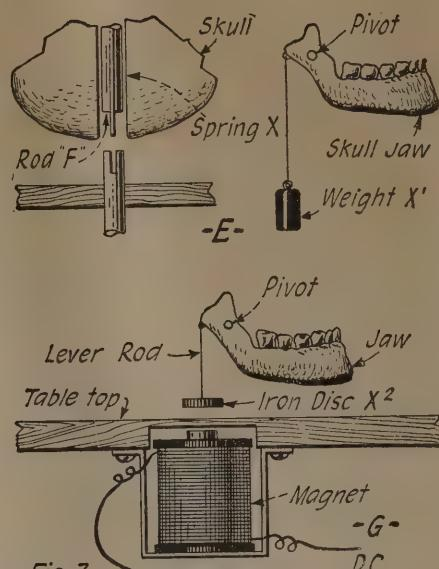

Fig. 3
The apparatus is made up as shown in the illustration; first a base of suitable size is made and two holes are bored at one end for the binding posts. A small box is then made to fit as shown in Fig. 3. This has a circular hole cut in the top and another hole in the side, large enough to insert objects to be magnified. A hole
In conclusion several points may be mentioned which if followed will make the apparatus work and appear much more professional. Firstly, the contact disc had best be geared up to the motor, so that it makes about one revolution to 20 or more of the motor shaft. Again, the skull should be arranged so that it may be picked up from the stand and shown to the audience. At Fig. 3 (E), is indicated how a separable rod joint (X) may be contrived, enabling the operator to remove the skull easily for inspection. An indirect electrical method is the best way in which to actuate the jaw. At Fig. 3 (G), is perceived how the electromagnet (D) may influence magnetically an iron disc (X'), joined to the movable jaw, as usual, by a lever or wire. This permits of minute inspection by the audience. Again, the effect can be attained by placing an aluminum ring in the jaw (properly balancing the jaw to make it work easily) and an alternating current electromagnet, by induction, will repel the ring (and hence the jaw also) whenever it is energized.